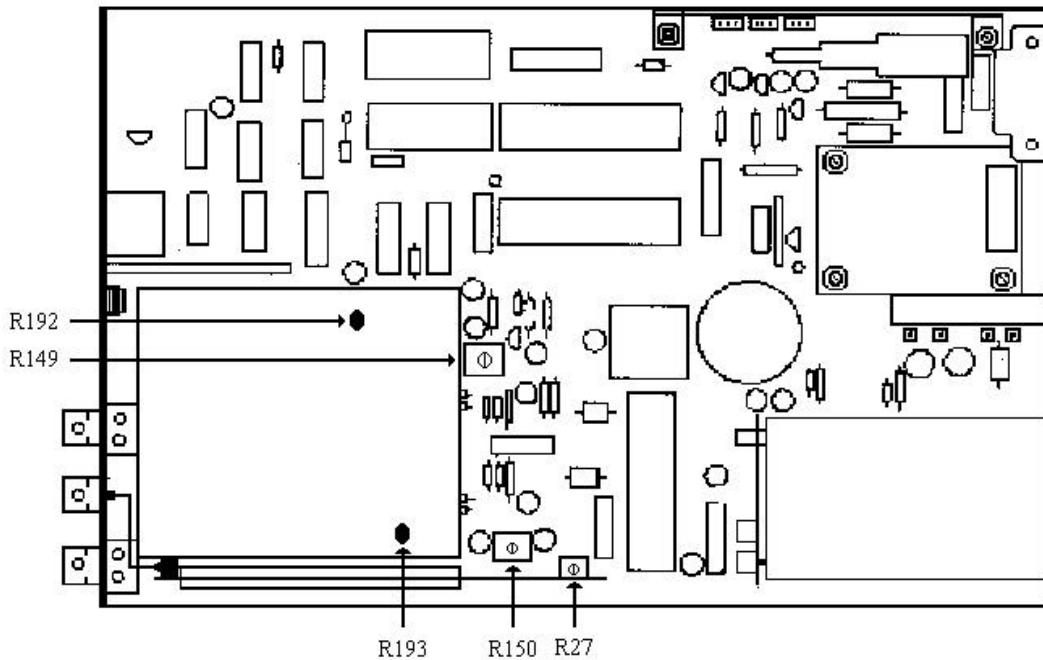

Figure 1. Adjustment locations – test instrument top view.
(1) Disconnect signal or function generator from TI **INPUT A** and press TI **RESET/CONTINUE** key.
(2) Adjust R149 (fig. 1) fully ccw.
(3) Adjust R192 (fig. 1) to its mid-point.
(4) Press TI **RESOLUTION** ↓ key until display indicates **000**.
(5) Connect signal generator rear panel **EXT REF INPUT** to TI rear panel **10MHz STD. OUTPUT**.
(6) Connect signal generator **OUTPUT RF** to TI **INPUT A**.
(8) Adjust R192 (fig. 1) to obtain a stable 100.0 ± 0.1 E6 TI indication with **GATE** and **INPUT A TRIG** LEDs flashing.
(9) Disconnect signal generator from TI **INPUT A**.
(10) If TI does not indicate 100.0 ± 0.1 E6 without **GATE** LED flashing; repeat (6) above through (10).
(11) Press TI **RESET/CONTINUE** key.
(12) Press TI **RESOLUTION** \uparrow key until display indicates **00000000**.
(13) Reconnect signal generator **OUTPUT RF** to TI **INPUT A**.
(14) Set signal generator amplitude to 13 mV.
(15) Slowly adjust R149 (fig. 1) cw until TI display just becomes unstable.
(16) Slowly adjust R149 (fig. 1) ccw until TI display stabilizes and indicates $100.000000 \pm .000001$ E6.
(17) Set signal generator amplitude to 7 mV.
(18) If TI **GATE** LED is flashing; repeat (14) above through (18).
(1) Disconnect signal or function generator from TI **INPUT B** and press TI **RESET/CONTINUE** key.
(2) Adjust R150 (fig. 1) fully ccw.
(3) Adjust R193 (fig. 1) to its mid-point.
(4) Press TI **RESOLUTION** \downarrow key until TI displays **000**.
(6) Connect signal generator **OUTPUT RF** to TI **INPUT B**.
(7) Set signal generator output to 100 MHz and output level to 3 mV rms.
(8) Adjust R193 (fig. 1) to obtain a stable 100.0 ± 0.1 E6 TI indication with **GATE** and **INPUT B TRIG** LEDs flashing.
(9) Disconnect signal generator from TI **INPUT B**.
(10) If TI does not indicate 100.0 ± 0.1 E6 without **GATE** LED flashing, repeat (6) above through (10).
- (12) Press TI **RESOLUTION** ↑ key until display indicates **00000000**.
- (13) Reconnect signal generator **OUTPUT RF** to TI **INPUT B**.
- (14) Set signal generator amplitude to 13 mV.
- (15) Slowly adjust R150 (fig. 1) cw until TI display just becomes unstable.